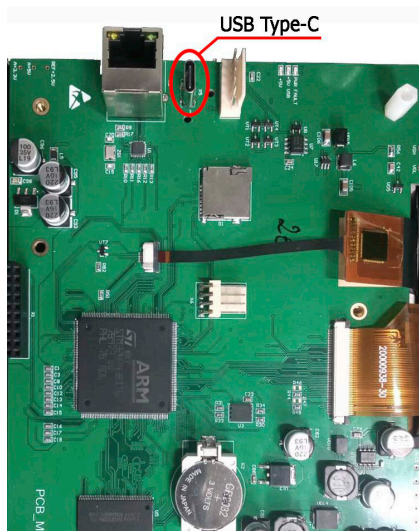

Figure 51
- 4) Connect the USB flash drive to the USB port on the module's board (refer to Figure 51).